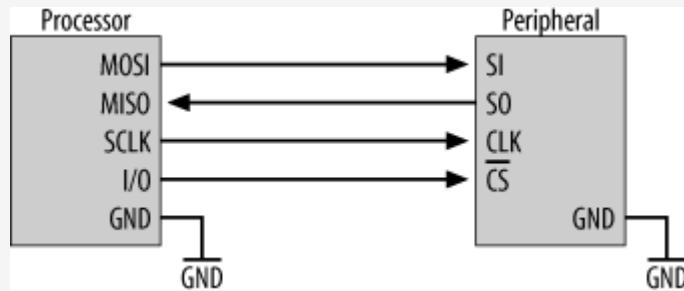

Figure 7-1. Basic SPI interface
MOSI is generated by the master and is received by the slave. On some chips, **MOSI** is labeled simply as *Serial In (SI)* or *Serial Data In (SDI)*. **MISO** is produced by the slave, but its generation is controlled by the master. **MISO** is sometimes known as *Serial Out (SO)* or *Serial Data Out (SDO)* on some chips. The chip select to the peripheral is normally generated by simply using a spare I/O pin of the master. Figure 7-1 shows a microprocessor interfaced to a peripheral using SPI.